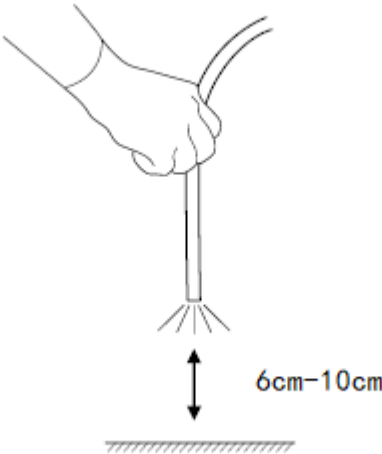

Figure 3.7
4. Point the tip of the endoscope towards a suitable object and move it between 6 cm and 10 cm. Confirm that the image color and brightness of the object on the LCD screen are basically stable. (As shown in Figure 3.7)
- The Air/Water Delivery button and the Suction button are consumables. If any abnormality is found, please replace the button with a new one. Confirm whether the small hole on the Air/Water Delivery button is blocked (as shown in Figure 3.7). If it is blocked, it will continue to deliver air, causing pain, hemorrhage or perforation in the animal.